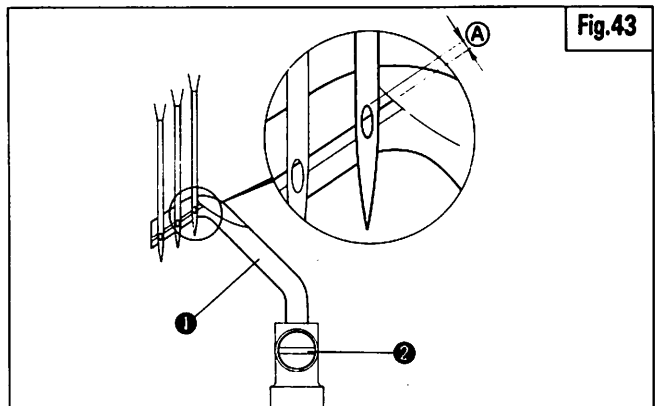

Fig.43
1. Adjust so that the line (A) of Needle Guard ① is 1/3 below the top of the right needle eye when the needle is in the lowest position. Fig. 43.